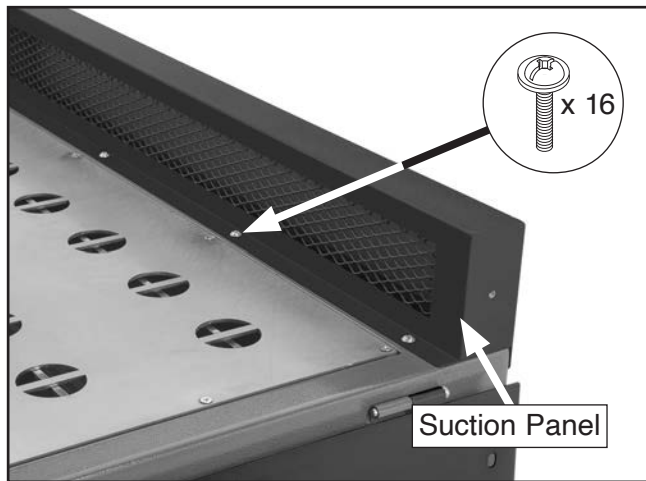

Figure 6. Installed suction panels.
6. Install suction panels on rear of downdraft table so screens face forward (see **Figure 6**). Use (16) M5-.8 x 10 flange screws.
7. Tilt right panel up and attach star knob. Repeat in similar manner on other side with remaining panel and star knobs (see **Figure 6**).